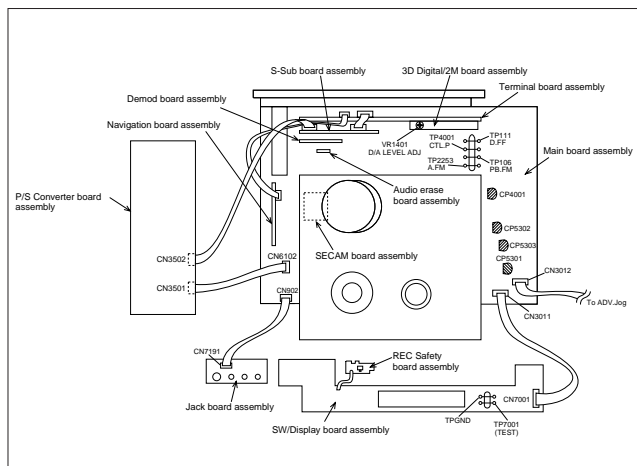

Fig. 1-4-1a
- (1) Refer to the disassembly procedure and perform the disassembly of the major parts before removing the Drum assembly.
- (2) Lower the cassette holder to prepare for the removal of the Mechanism assembly screws. (Refer to the "Procedures for lowering the Cassette holder assembly" of 1.3 Disassembly/assembly method.)
- (3) Remove the combined Mechanism and Main board assemblies.
- (4) If any other major parts are used, remove them also.
- (5) Connect the wires and connectors of the major parts that have been removed in steps (1) to (4). (Refer to Fig.1-4-1a.)
- (6) Place the combined Mechanism, Main board and other board assemblies upside down.
- (7) Insert the power cord plug into the power outlet and then proceed with the diagnostics and servicing of the board assembly.
- (1) Unplug the power cord plug from the power outlet.
- (2) Connect TPGND and TP7001 (TEST) on the board assembly with a jump wire. (Refer to Fig. 1-4-1a.)
- (3) Insert the power cord plug into the power outlet.
- (4) With lock levers (A) (B) on the left and right of the Cassette holder assembly pulled toward the front, slide the holder in the same direction as the cassette insertion direction. (For the positions of lock levers (A) (B), refer to the "Procedures for lowering the Cassette holder assembly" of 1.3 Disassembly/assembly method.)
- (5) The cassette holder lowers and, when the loading has completed, the mechanism enters the desired mode.